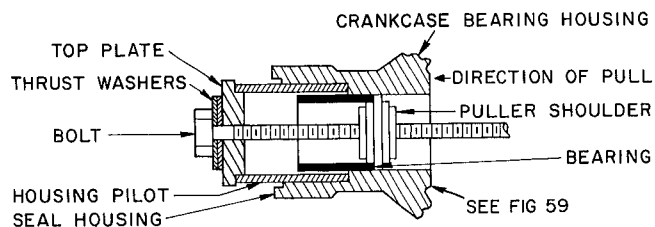

Fig. 57 – Removing 5H Seal End Main Bearing
2. Press bearing into place using a puller shoulder (Table 15 and Fig. 57, 58) and jackscrew or bearing press.
DISASSEMBLY AND INSPECTION – With crankshaft removed, use a puller shoulder to remove and install seal end main bearings (Fig. 57).